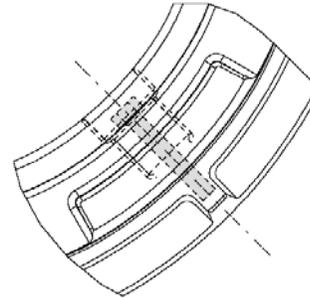

Figure 13: Snow Plow Ring Bolt Location
14. Pour concrete around the Defender Series™ spill container, making sure to dome the concrete at least 1" (2.54 cm) to allow for adequate runoff. The sloping of the concrete should begin at the outer edge of the concrete ring tabs (Figure 13). Keep the snow plow ring and cover clean and free of any concrete splatter (the snow plow ring must be able to be removed if service is needed).